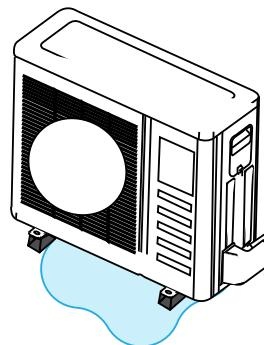

Figure 26. Avoid Defrost Water Ice Hazard
- Carefully consider how to manage defrost water disposal to prevent ice from blocking walkways or creating a safety hazard near the outdoor unit as illustrated in Figure 26.